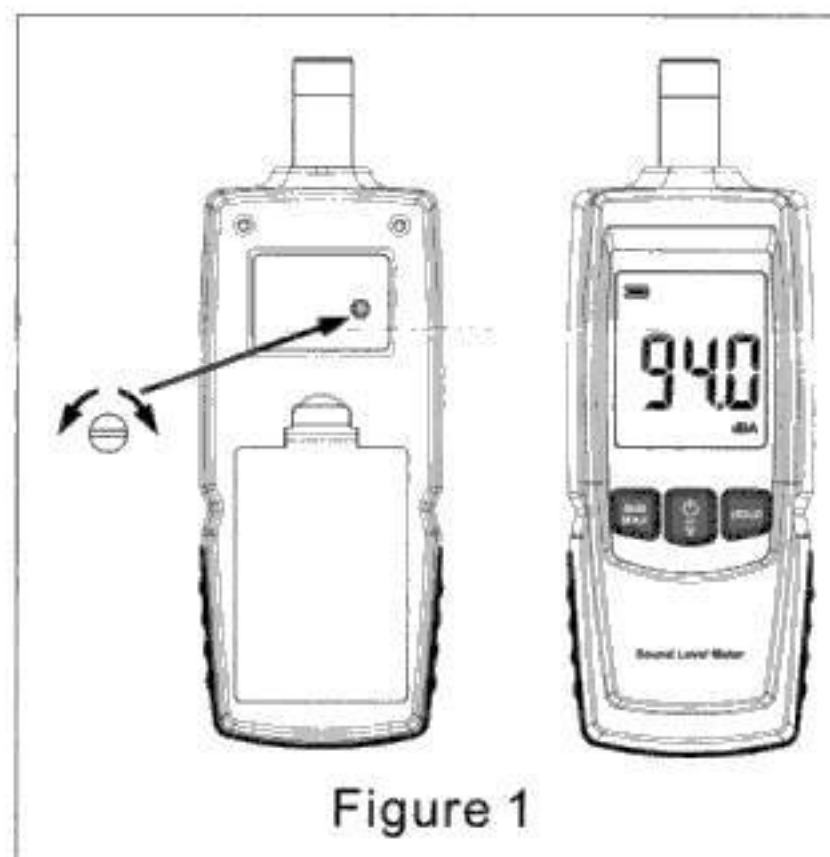

Figure 1
- 2、Turn on the power switch of standard sound source(94dB@1KHz), use straight screwdriver to adjust potentiometer located in the opening hole within the machine stick, and make LCD display 94.0(referring to Figure 1).